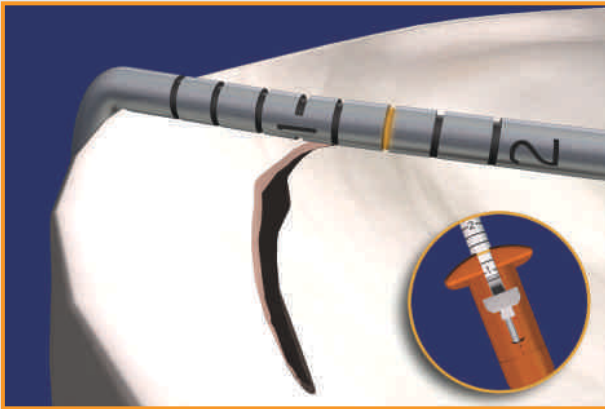
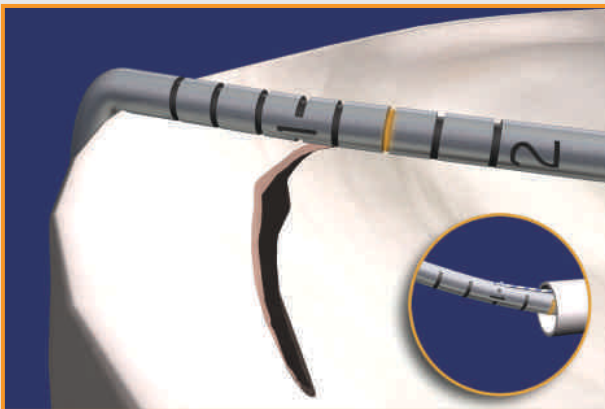

Figure 3. Establish depth limit using the adjustable depth limiter and depth probe.
Figure 4. Use laser marks as a reference.
1. Use the meniscal depth probe to determine the desired depth limit. Place the tip of the probe at the meniscosynovial junction and measure the width of the meniscus at the desired entry point for the delivery needle. In the average size knee a depth of 14 mm is usually adequate. Adjust the depth penetration limiter to the desired length by pressing the depth limiter button (**Figure 3**). This length can be adjusted outside or inside of the joint. The laser marks on the tip of the needle can also be used as a reference (**Figure 4**).